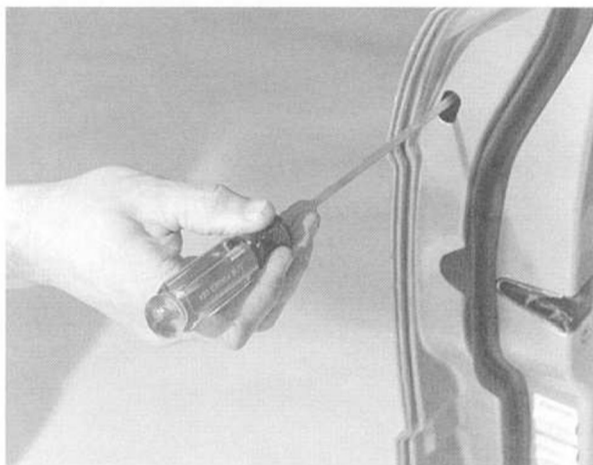

Fig. 9. Insert screwdriver into access hole and push locking plate forward to unlock and release handle trim.
3. Pry out access plug in end of door. Use screwdriver through access hole to slide exterior trim locking plate into released position. See Fig. 9.
3. Pry out access plug in end of door. Use screwdriver through access hole to slide exterior trim locking plate into released position. See Fig. 9 given earlier.